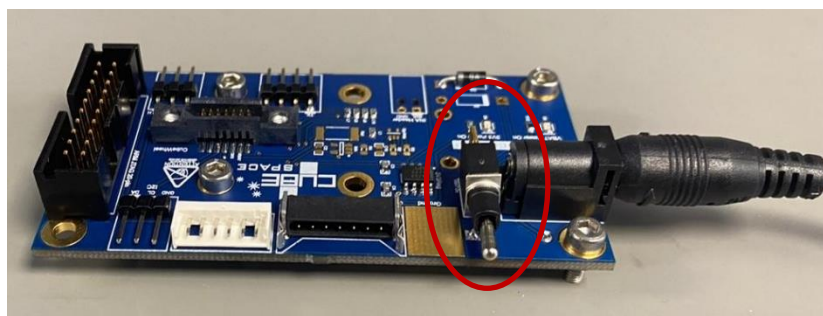

Figure 1 CubeSupport DC Jack and Power Switch
3. To power the CubeSupport board, connect the DC jack male connector to the port on the board, with the power switch being in the downwards "off" position as shown in Figure 1. The DC jack can also be locked into the supply port by turning the connector clockwise to ensure a stable connection.